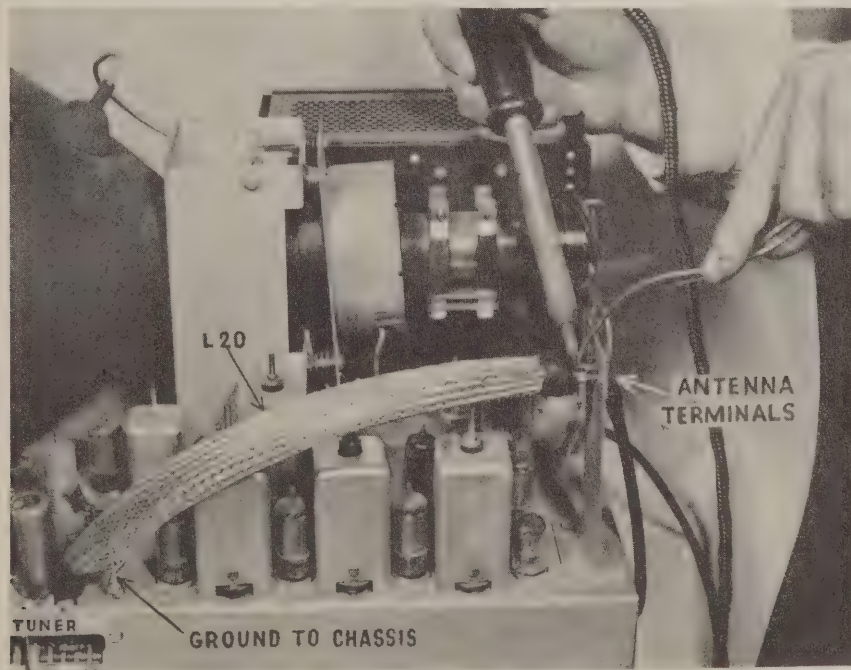

Figure 21
c. In receivers not providing for 72 ohm input: Unsolder the Twinex leads from the antenna terminals and slide a Jerrold Model L20 shielded loom over the Twinex. Resolder the shielded Twinex to the terminals at the back of the set (See Fig. 21). Ground the braid of this loom to the chassis at both ends—the tuner and at rear of chassis. Use RG 59/U to connect antenna terminals directly to the 1401G or 1402G Isolation Unit.